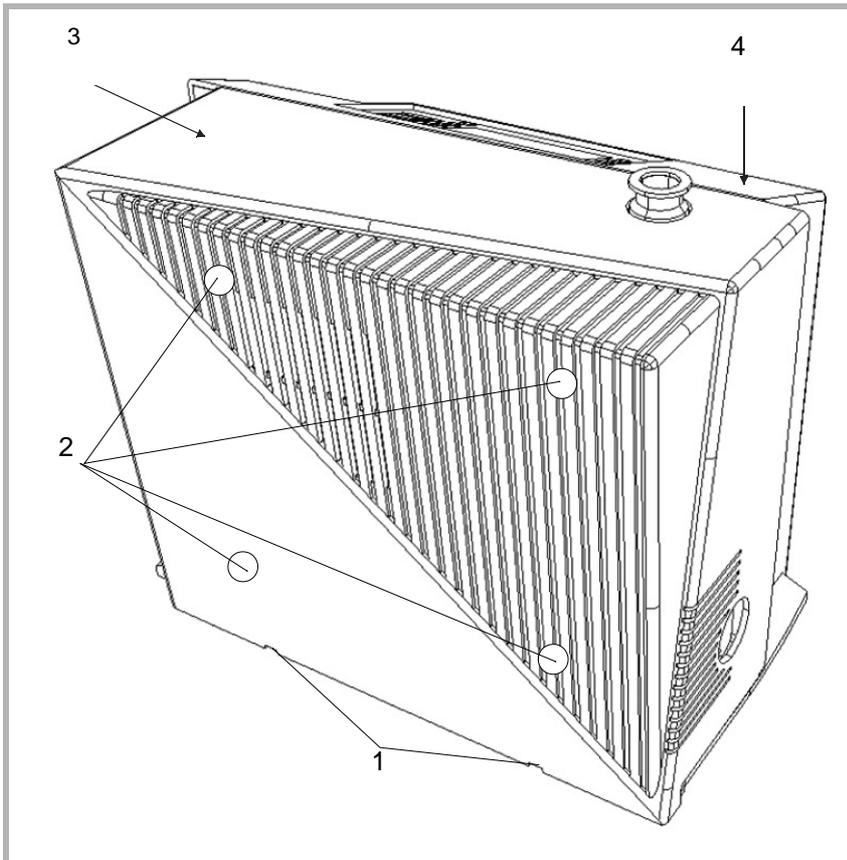

Fig. 36 Backview of PhoeniXL
4. Turn the PhoeniXL so that it is orientated in the same way as shown in Fig 36.
5. Use two flat blade screwdrivers and insert these into the openings (Fig. 36/1) and lever the cover for the mechanical section out at the bottom.
8. Removing the cover for the electronics section by removing the four Phillips screws (see Fig. 36/2).